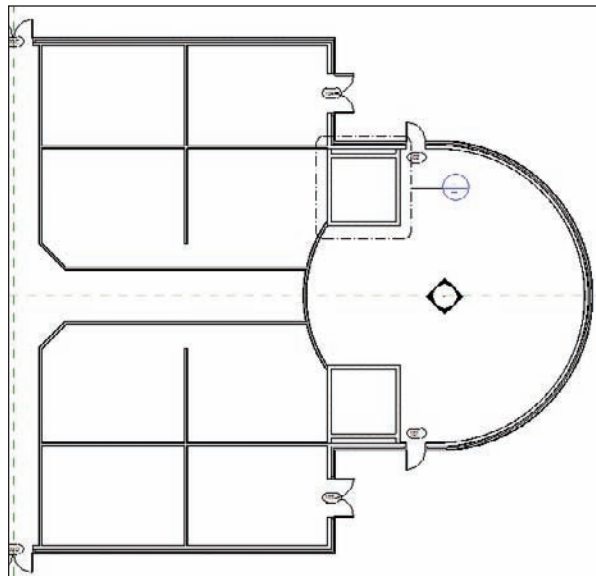

FIGURE 4.5 The two walls copied, segmenting the spaces north and south of the corridor
8. Repeat the procedure for the south side of the corridor, as shown in Figure 4.5. You will see that the ends of the walls do not meet. This is fine—we will modify these walls with the Trim command in a moment.